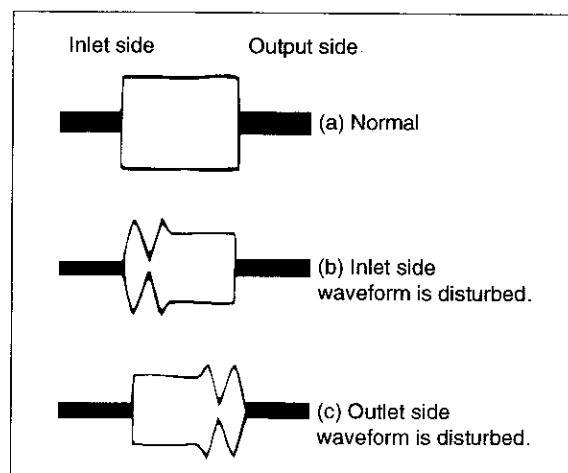

Figure 2
- (3) Play back the alignment tape (VR2DBOPS).
- (4) Ascertain that each guide is free from remarkable curl.
- (5) Ascertain that the RF waveform of inlet and outlet sides is flat on the oscilloscope (Figure 2, (a)). Unless the waveform is flat, (Figure 2, (b), (c)), make an adjustment as follows.